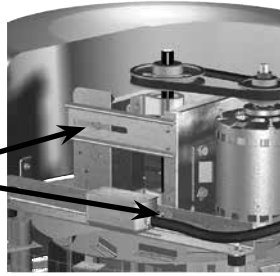

Figure 16
- Belt tension can be adjusted by loosening four fasteners on the drive frame, see Figure 16.